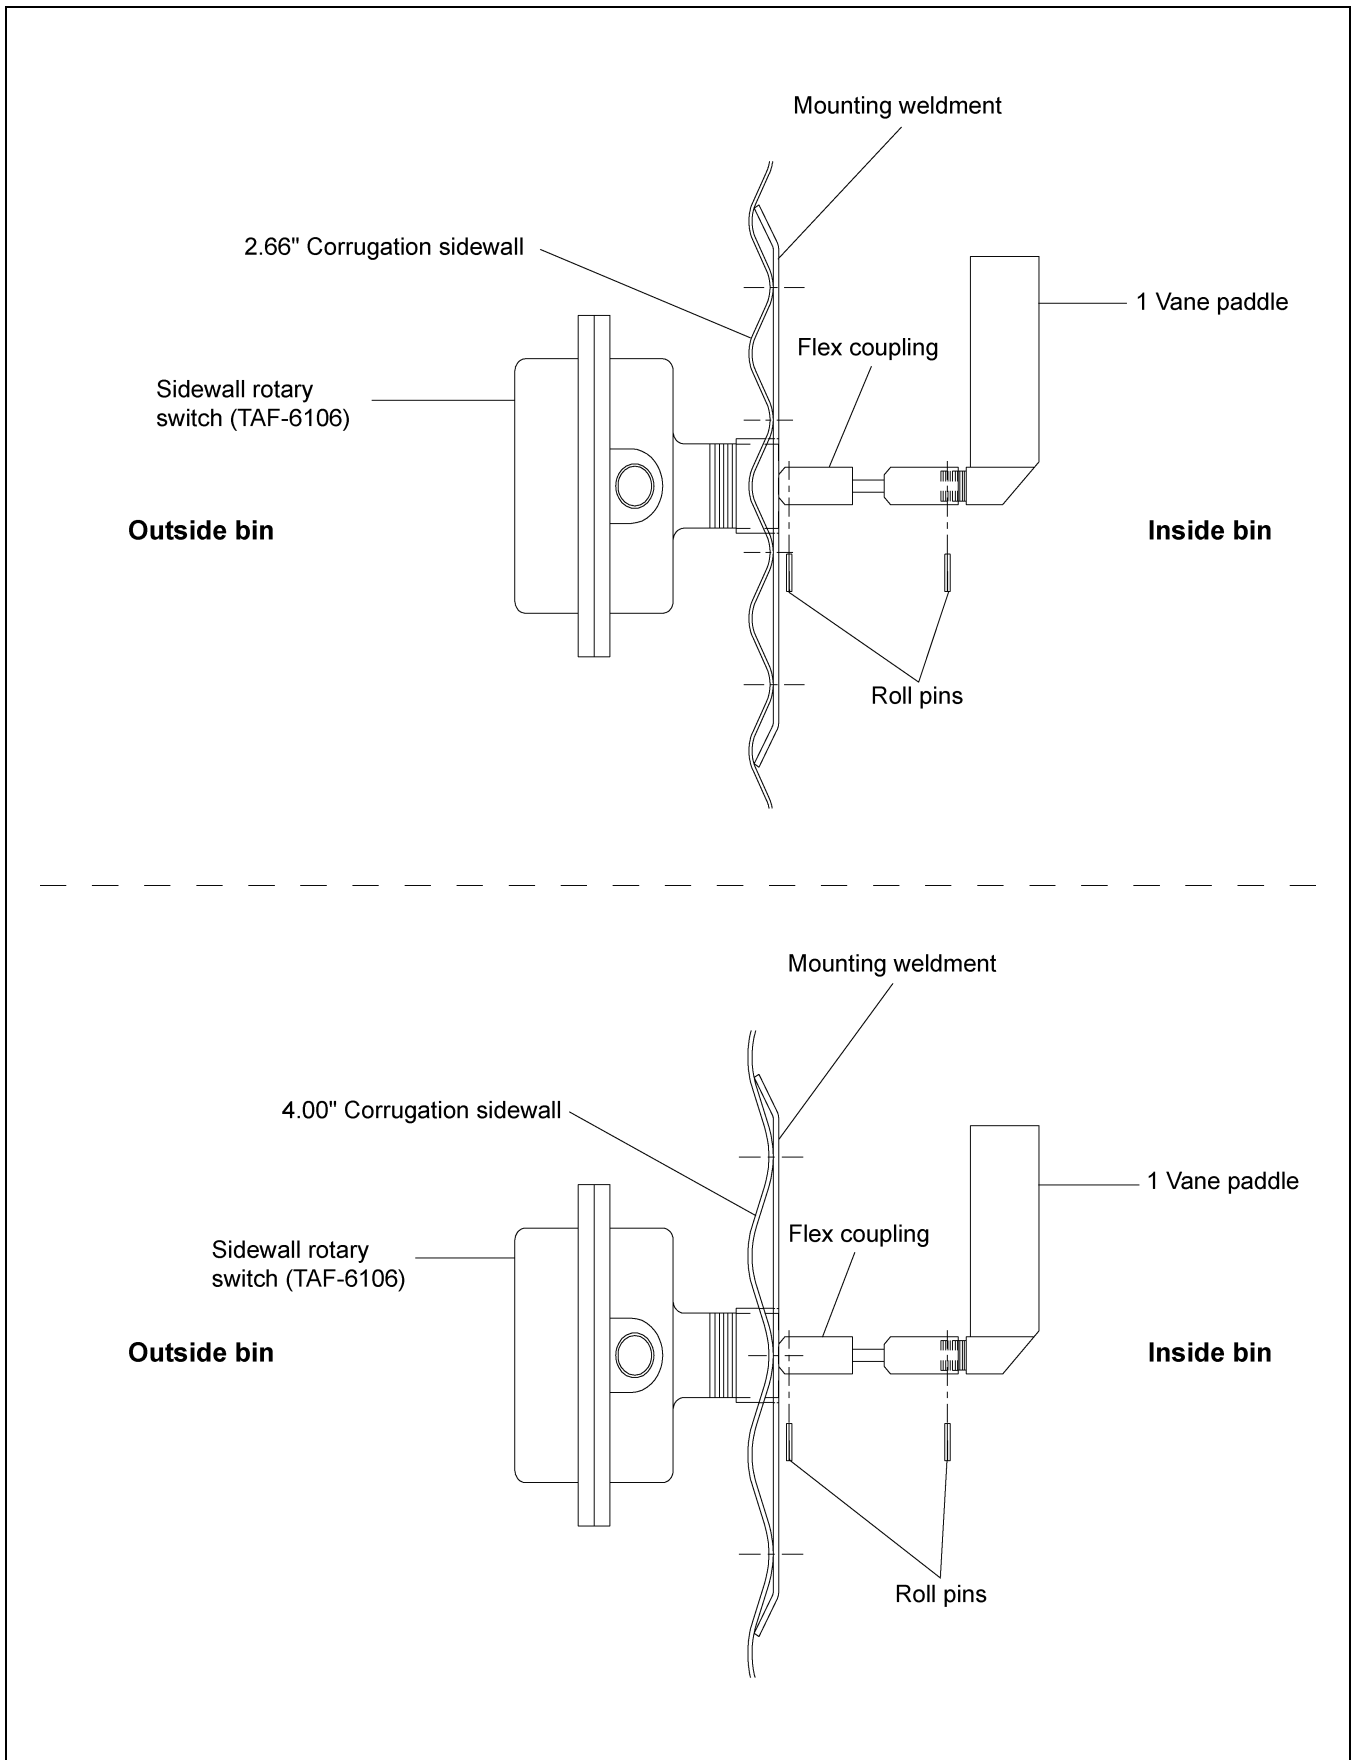

Figure 30
4. Use the mounting plate as a pattern and drill four (4) 3/8" holes through the sidewall at the switch location so the plate can be bolted to the bin.
9. Attach the 1 vane paddle to the flex coupling as shown in Figure 30 on Page 24.